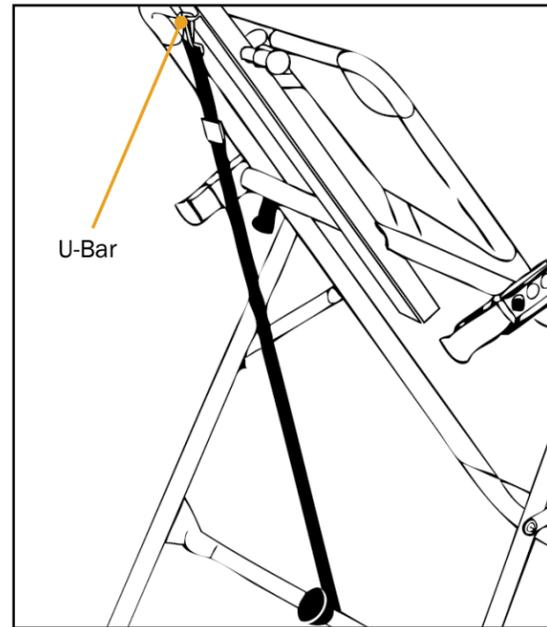

Figure 18
- Unfold the adjustable Nylon Tether and clip it to the U-bar on the underside of the Table Bed (Figure 18). See Owner's Manual for detailed instructions.